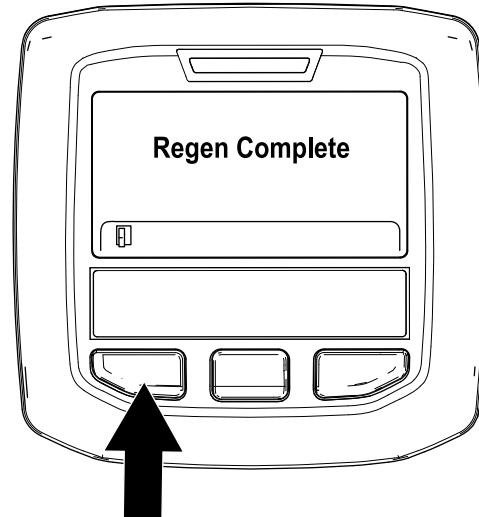

Figure 35
- The parked regeneration is complete when the “Regen Complete” message displays in the InfoCenter. Press the left button to exit to the home screen (Figure 35).